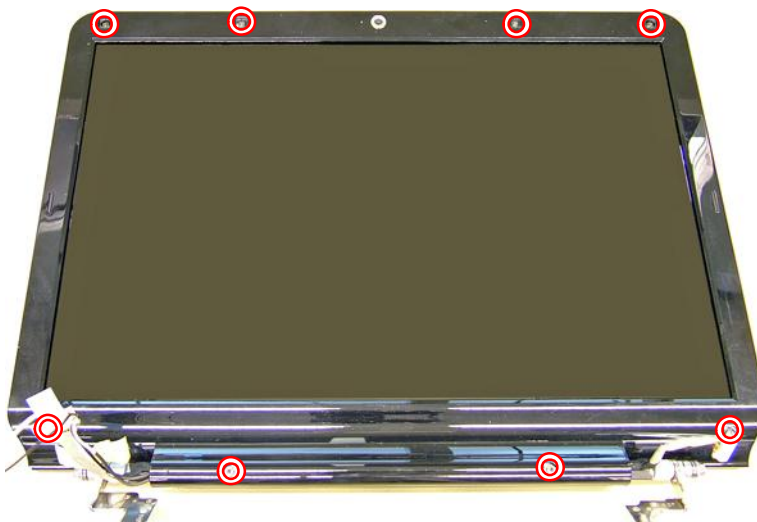

Fig. 41 LCD bezel screws.
2. Remove the four screws securing the touchpad bracket to the top cover (see Fig. 41).
Note: In Fig. 41, the screws in each of the lower corner are covered by cables.